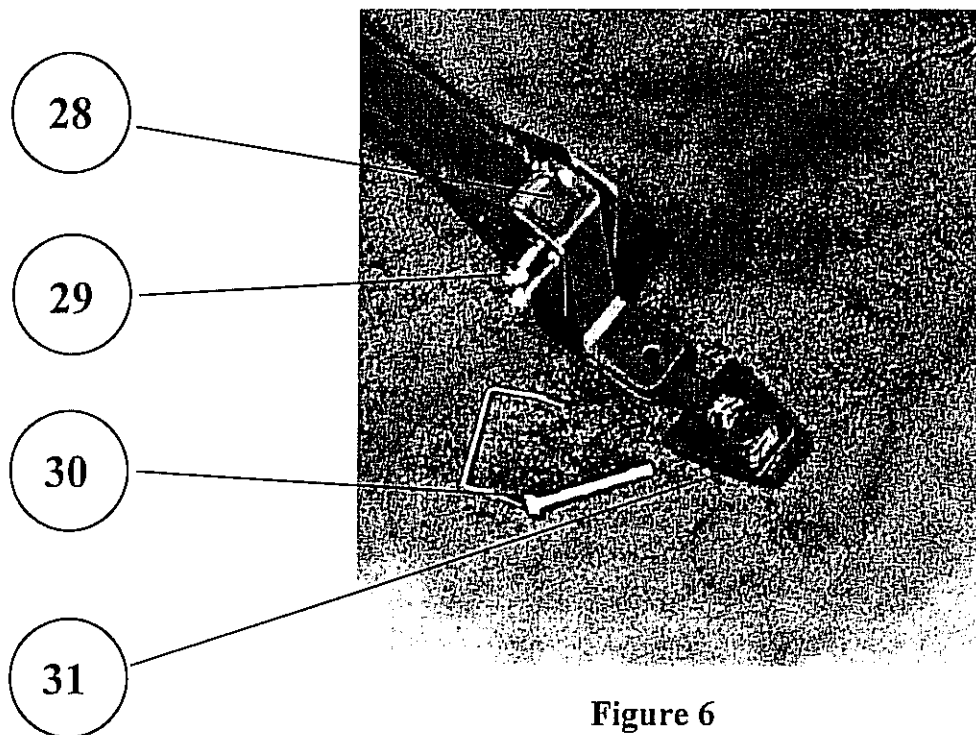

Figure 6
- Remove the bolts in the vertical hitch section (see fig. 6)